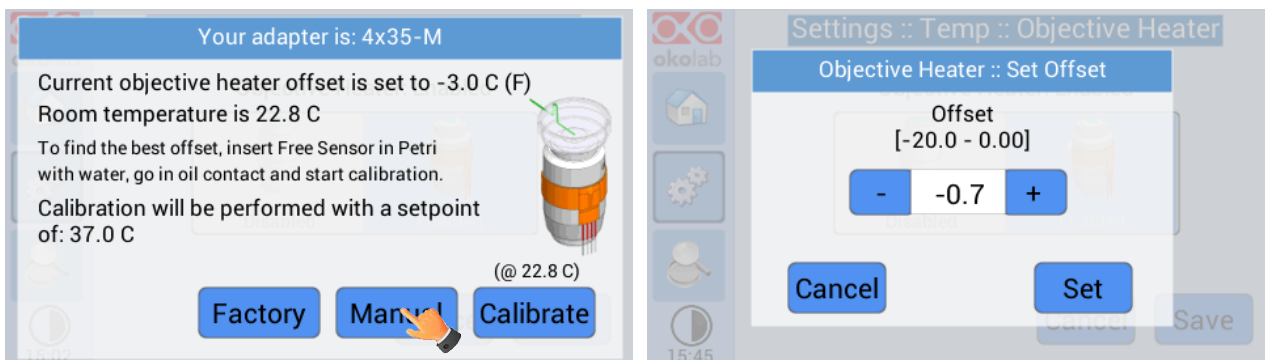

Figure 22. Objective Heater Manual Offset
1. **MANUAL:** Selecting “MANUAL” allows searching for the best offset value manually, step by step. See Figure 22 below and paragraph 7.2 for instructions on how to manually calibrate the Objective Heater (OBJ-COLLAR #####).